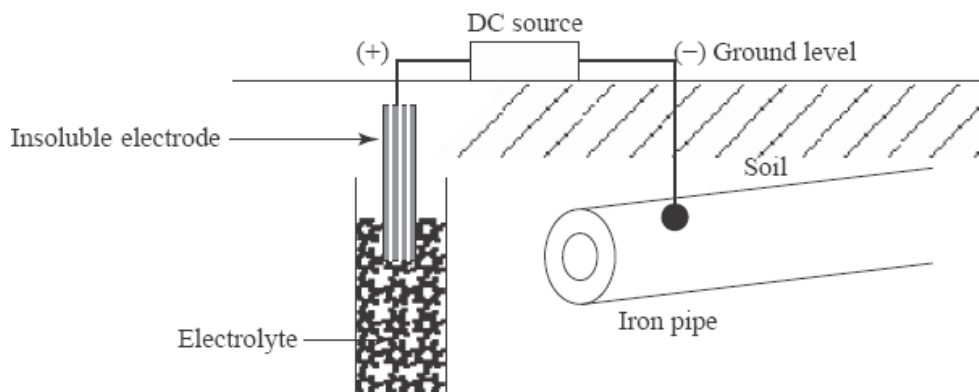

Fig. 2.12 Impressed current cathodic protection
2. *Impressed current cathodic protection:* The object to be protected is made cathode and it is connected to the negative terminal of a DC (direct current) source. The positive terminal of the source is connected to the other electrode made of graphite or platinum, lead or nickel. The impressed current opposes the galvanic current (corrosion current) and, hence, protection from corrosion takes place (Fig. 2.12).